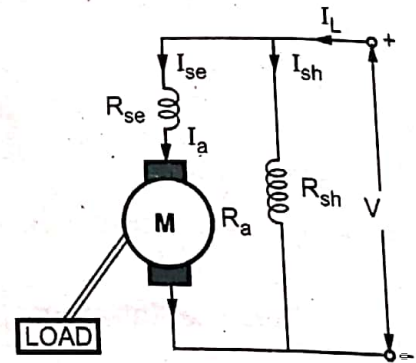

Fig. Q.45.3 Long shunt compound motor
• The shunt field winding is connected across the combination of armature and the series field winding as shown in the Fig. Q.45.3.